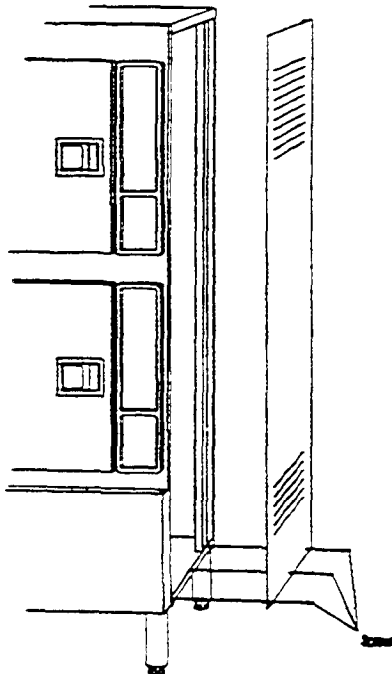

Figure 2-7. Access Panel Removal
7. Refer to Figure 2-7. Remove the right side access panel and connect the drain line to the 1.5-inch drain pipe connection (D) inside the Steam Craft 10.
2. Remove the right side access panel by removing the three screws (Figure 2-7) that hold it in place. Save the screws.
5. If no further work inside the side panel is required at this time, such as plumbing and leak checks, secure the side panel with the three mounting screws (Figure 2-7). Do not turn power ON at the main disconnect switch until power is required for component or operational testing
1. Check all connections for proper tightness. Remove the side panel to inspect water connections inside the steamer (Figure 2-7).